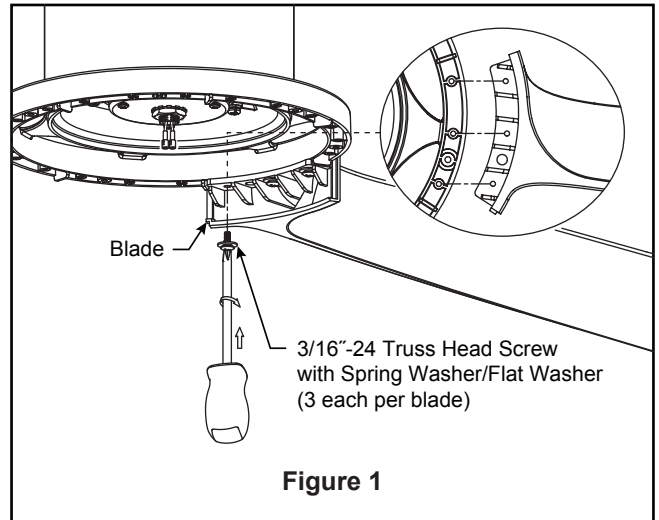

Figure 1
1. Secure the seven blades using the 3/16"-24 truss head screw with spring washer/flat washer through the holes located on the bottom of the motor assembly. (Figure 1)
- 1. Remove one of the three screws in the support bracket at the bottom of the motor assembly. Retain the screw for later and slightly loosen the remaining two screws. (Figure 1)